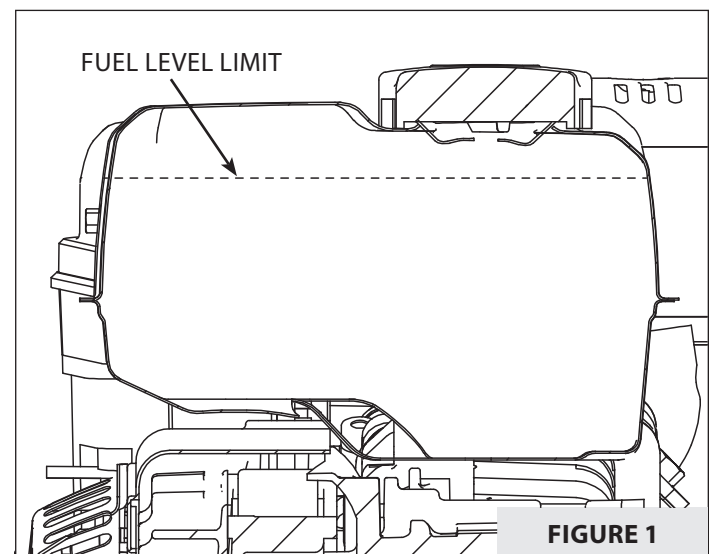

FIGURE 1
3. Fill tank to fuel level limit. **SEE FIGURE 1.**